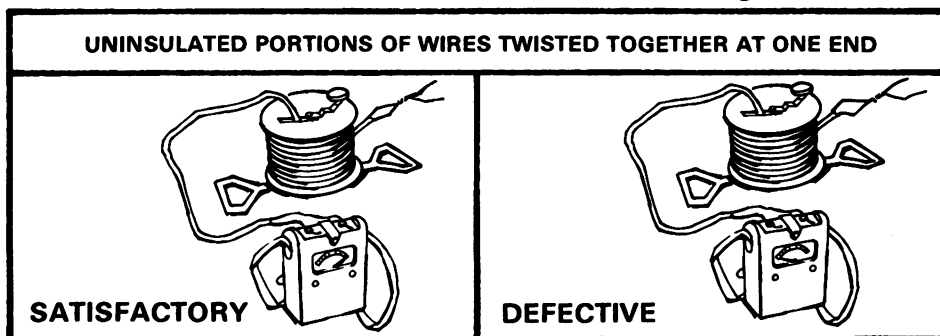

Figure 4b.
(2) Twist the wires together at one end and touch those at the other end to the galvanometer posts. This should cause a wide deflection of the needle (about $1\frac{1}{2}$ ohms or 23 to 24 units for a 500-foot length). No movement of the needle indicates a break; a slight movement indicates a point of high resistance which may be caused by a dirty wire, loose wire connection, or wires with several strands broken off at connections (figure 4b).